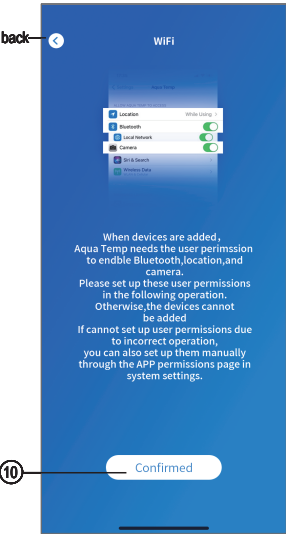

Fig.7 Permission confirmed interface
1. Clic ⑩ to confirm the permission of bluetooth,location and camera(Fig.7);